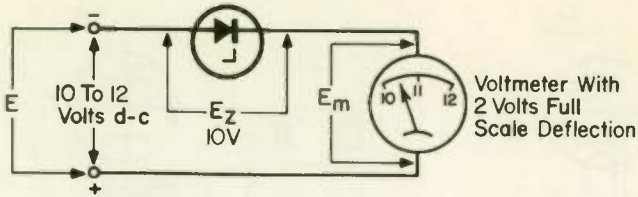

Fig. 24 Using a zener diode for meter scale expansion.
Figure 24 shows the use of a zener diode as a meter scale expander. It is desired to read accurately a voltage which varies between 10 and 12 volts. On a 0–15 volt scale, the part of the scale between 10 and 12 volts is only 13 percent of the entire scale. In Fig. 24 the 10 to 12 volt part of the scale is expanded to occupy the entire length of the
scale, so that a much more accurate reading is possible. A zener diode with a breakdown voltage of 10 volts is connected in series with an ordinary d-c voltmeter with a full-scale deflection of 2 volts. You have learned that a zener diode must always be operated with a (146) _____ in series to limit the current. This is provided in the circuit of Fig. 24 by the resistance of the (147) _____.
In Fig. 24, $E = E_z +$ (148) _____. If the voltage being measured is 10.5 volts, then the voltage across the meter is (149) _____ volts. If E is 12 volts, then E_m is (150) _____ volts. Thus you can see that if E varies between 10 and 12 volts, the voltage across the meter varies from 0 to 2 volts. By recalibrating the scale, the voltmeter can be made to read E directly. An example of the use of a scale expanding circuit would be for measuring the condition of charge of a storage battery. The battery voltage will not vary enough between charge and discharge to be read readily on an ordinary voltmeter, but the condition can be easily determined by the expanded scale circuit of Fig. 24.